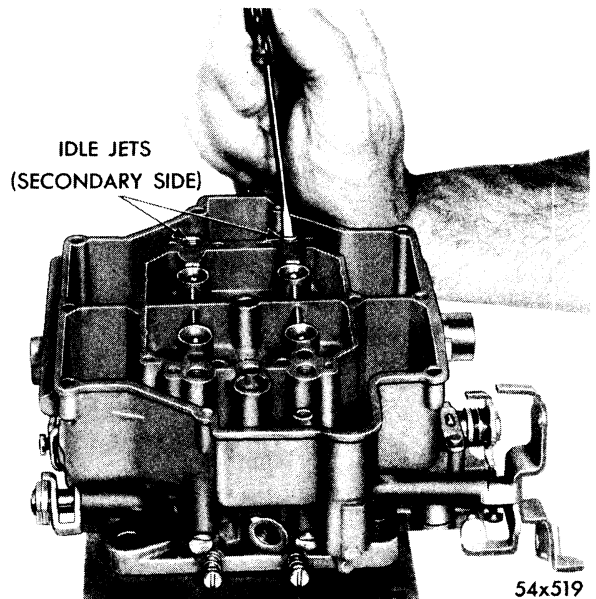

Fig. 27—Removing or Installing Idle Jets (Secondary Side)
- (9) Remove the idle jets (secondary side), as shown in Figure 27.